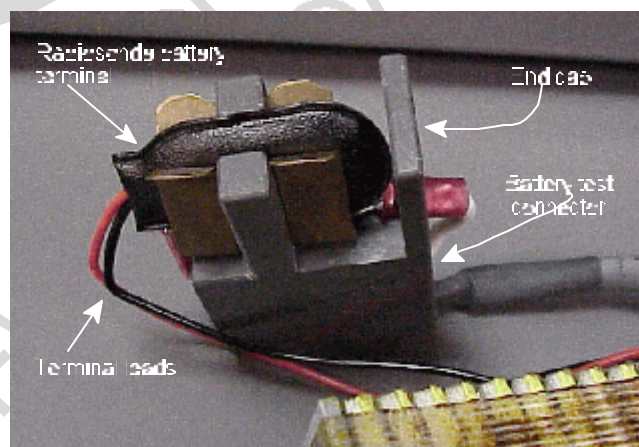

Figure 3
1. Activate the battery by immersing it in clean, room temperature water ($\geq 25^{\circ}\text{C}$) for **NO LESS THAN 3 minutes**. If you lose track of the elapsed immersion time, soak the battery longer than may be necessary to ensure that the three minute minimum is met. It is more desirable to soak the battery too long than not long enough. **DO NOT** use water that has a high mineral content or which has had iodine or large amounts of chlorine added. **DO NOT** immerse the battery connector located at the end of the wire leads. Immersion time should not be varied due to water temperature. The container used to hold the water must be made of glass, plastic or paper. **DO NOT USE METAL CONTAINERS! THE WATER LEVEL MUST BE AT LEAST 2" (5 CM) ABOVE THE TOP OF THE BATTERY** (see Figure 3).
2. Note the battery connector on the battery tester. The battery terminal should be placed into the battery test connector so that the terminal leads face away from the end cap. See figure 3.